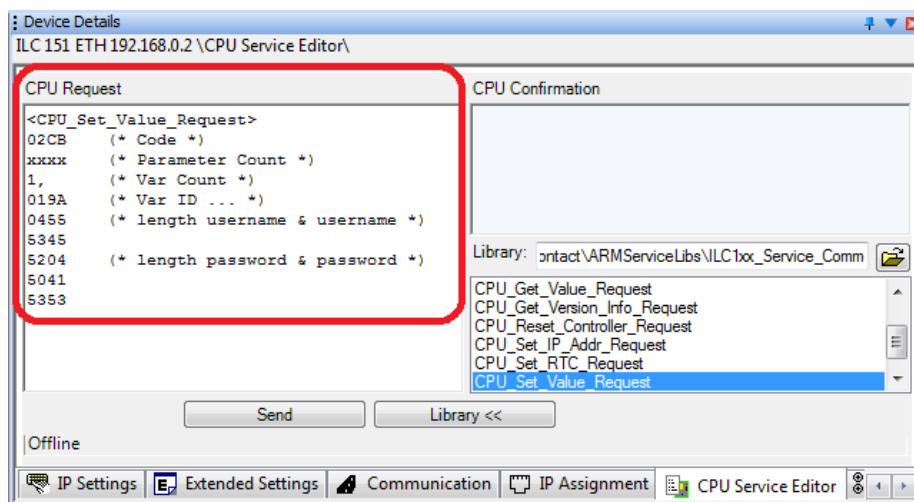

Figure 3-28 Specifying username and password for FTP access
- In the “CPU Request” area for (* Value ... *) (changed to (* length username & username *) and (* length password & password *) in Figure 3-28) enter the desired username and password.
Example (refer to Figure 3-28): username "USER" (length "04"), password "PASS" (length "04")
Figure 3-28 shows the settings for defining the username "USER" and the password "PASS" in the "CPU Request" area.